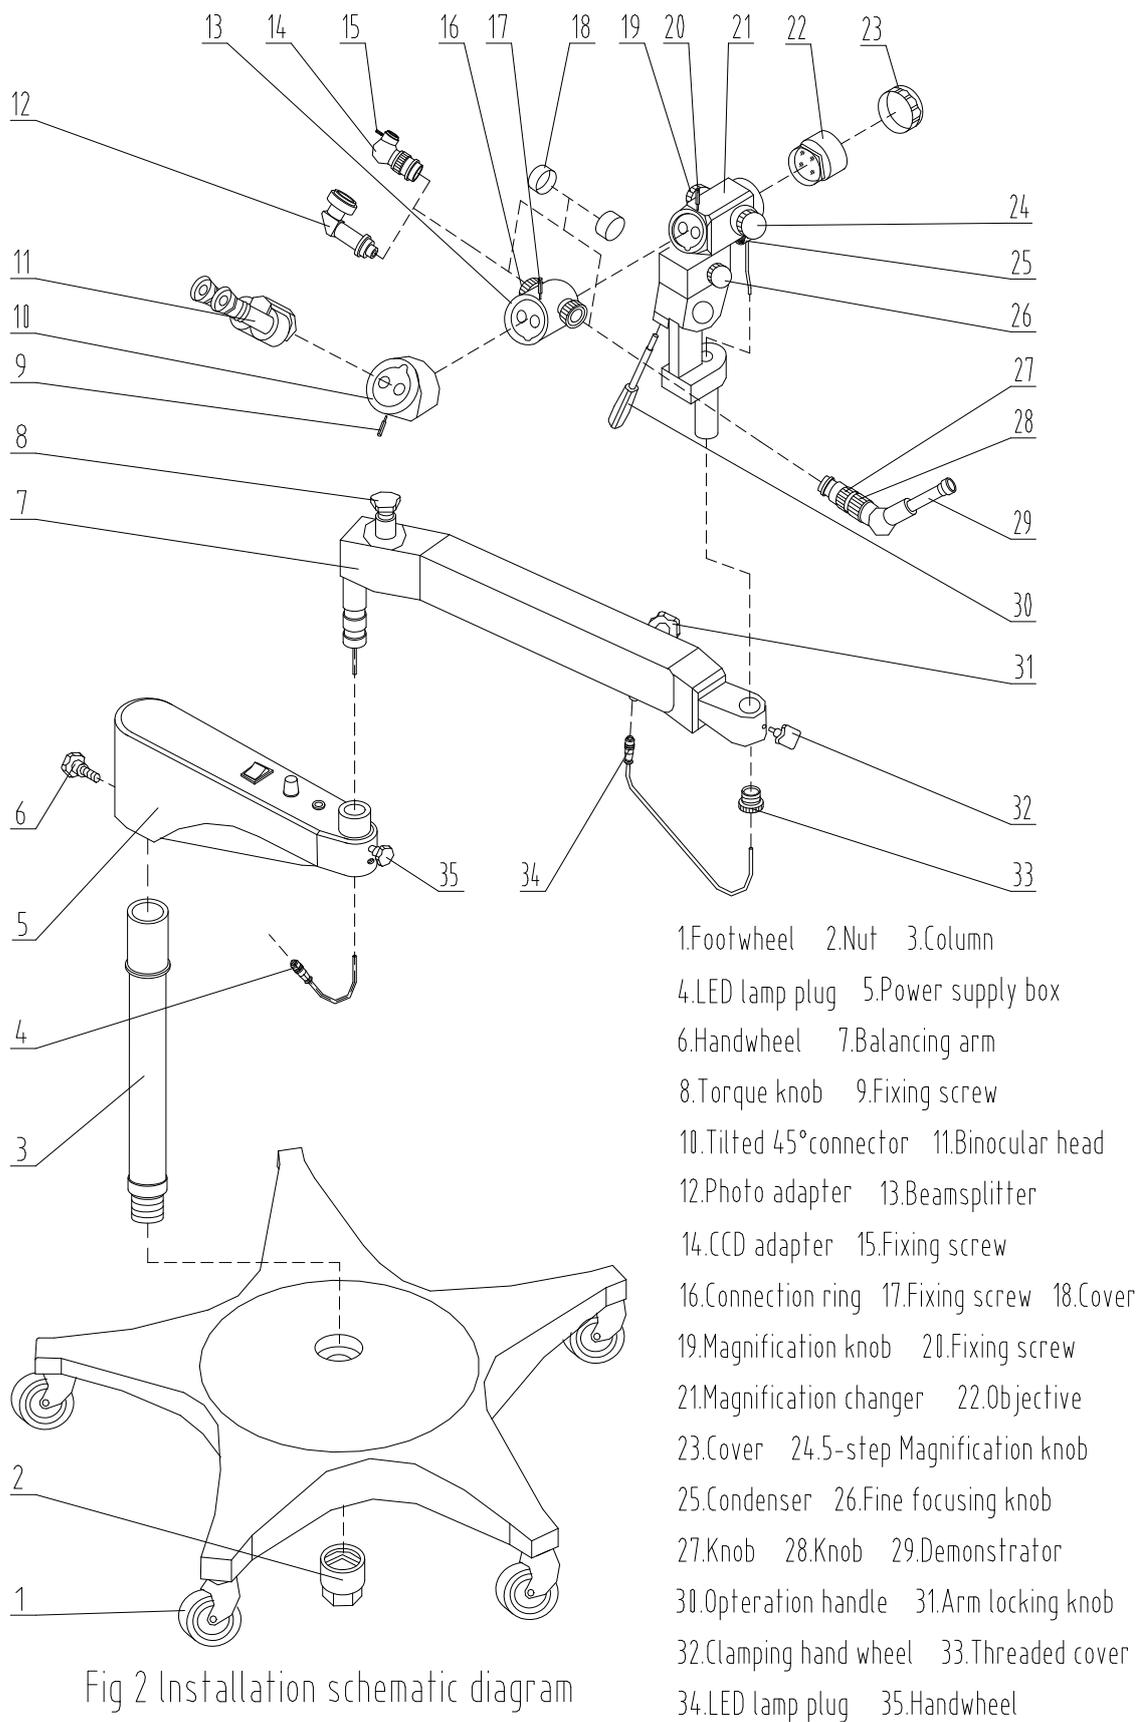
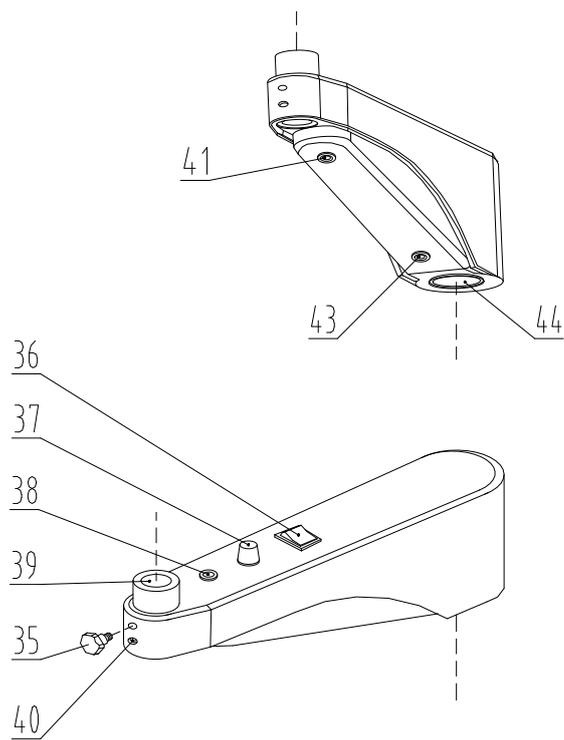

Fig 2 Installation schematic diagram
Fig.3 Power supply box
2.22 . Condenser (25, Fig.2): Built-in 10W LED lamp.
2.23. Photo adapter (optional components 12, Fig2).
3. Assembly(Fig.2 & Fig.3)
Take out the column (3, Fig.2) and the 5-star base from the package, turn out the nut (2, Fig.2) from the column, insert the column (3, Fig.2) into the hole of 5-star base, then tighten the nut (2, Fig.2).
Take out the power supply box (5, Fig.2) from the package, insert it into the column (3, Fig.2), then fix it with clamping hand wheel (6, Fig.2).
Take out the balancing arm (7, Fig.2) from the package, insert it into the power box hole (39, Fig.3) and fix it with clamping hand wheel (35, Fig.2).
Take out the magnification changer (21, Fig.2) from the package, take off the threaded cover (33, Fig.2), insert it into the hole of arm, then tighten this threaded cover(33, Fig.2)
Take out the beamsplitter, install it to the magnification changer and fix it with fixing screw (20, Fig.2). Take out the tilted 45°connector, install it to the beamsplitter and fix it with fixing screw (17, Fig.2). Take out the CCD (14, Fig.2) or photo (12, Fig.2) adapter, insert it into the any end of the beamsplitter and fix it with the connecting ring (16, Fig.2) . Take out the demonstrator, insert it into the other end of the beamsplitter and fix it with the connecting ring (16, Fig.2)
Take out the straight binocular head (11, Fig2) from the package, install it to the tilted 45°connector, then fasten the fixing screw (9, Fig2).
Insert the LED lamp plug (34, Fig.2) into the socket under the arm. Insert the plug (4, Fig.2) into the socket(41, Fig.3) under the power supply.
Insert output connector of power adapter (Fig.4) into the socket (43, Fig.3) under the power supply, connect the power adapter to power supply.
■ When using CCD adaptor, first see clear image through the binocular head, then turn the fine focusing ring on CCD adaptor until the image in the screen is seen clearly. If the direction of image viewed with CCD is different from that viewed with the binocular observation unit, screw out the locking screw(15, Fig.2) on the adaptor and turn the camera till the image direction is the same as the image viewed with the binocular observation unit, then tighten this screw(15, Fig.2).
- Turn on the power switch (36, Fig.3).
- Adjust the colposcope nearby working distance, then adjust the fine focusing knob (26, Fig.2) to a